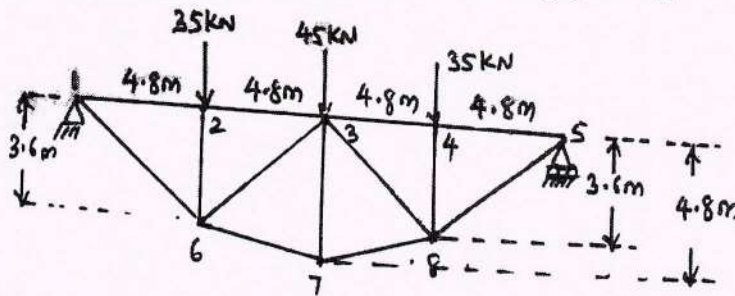

Fig Q2
- 2 Determine forces in all the members of the truss shown in Fig Q2 using method of joints.